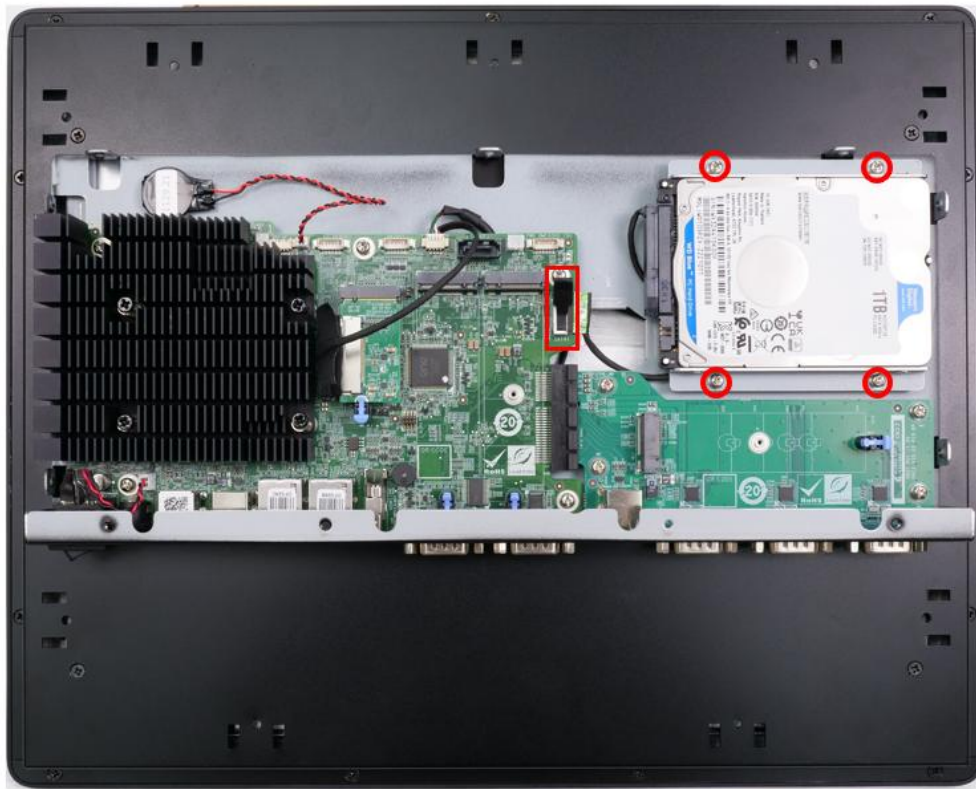

Figure 3-4: PPC2-Cxxx-EHL HDD Installation
**Step 4:** Reinstall the HDD bracket into the PPC2-Cxxx-EHL Series and fasten the four hard drive bracket screws (**Figure 3-4**). Connect the SATA and SATA power cables.